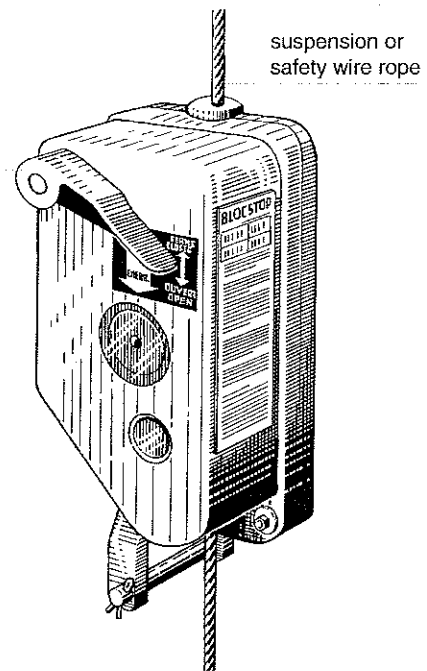

Fig. 14
- for protection when tensioning masts, scaffolding, shuttering... (Fig. 14).